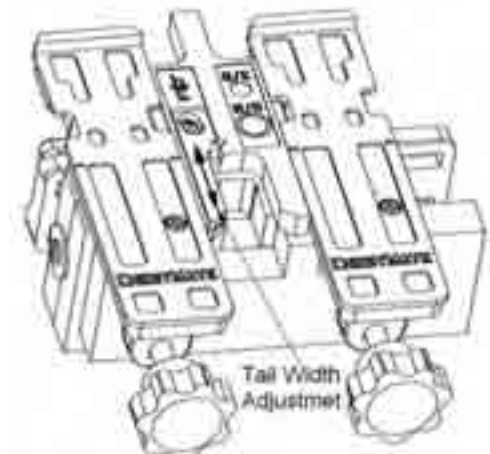

Figure 3
- 10-**If the fit is not acceptable, move the adjustment towards you to make the slot narrower and away from you to make it wider. Repeat the process until you have the fit you want. (Fig. 3)
- 11-**Set up to cut your actual tail board. (Figure 3)